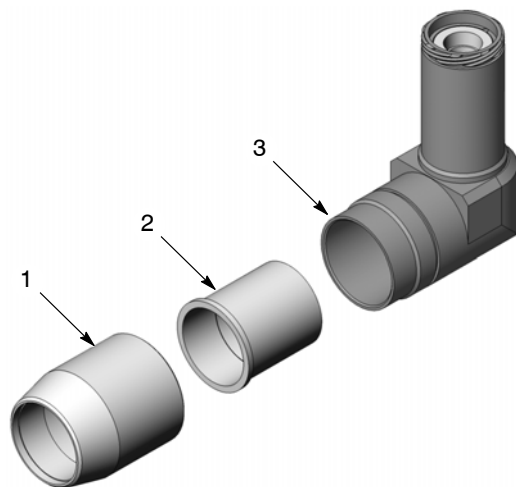

Figure 2 Removing Body and Retainer Nuts from Extension
3. See Figure 2. Unscrew the body nut (1) from the 90 degree extension. Pull the retainer nut (2) out of the extension.